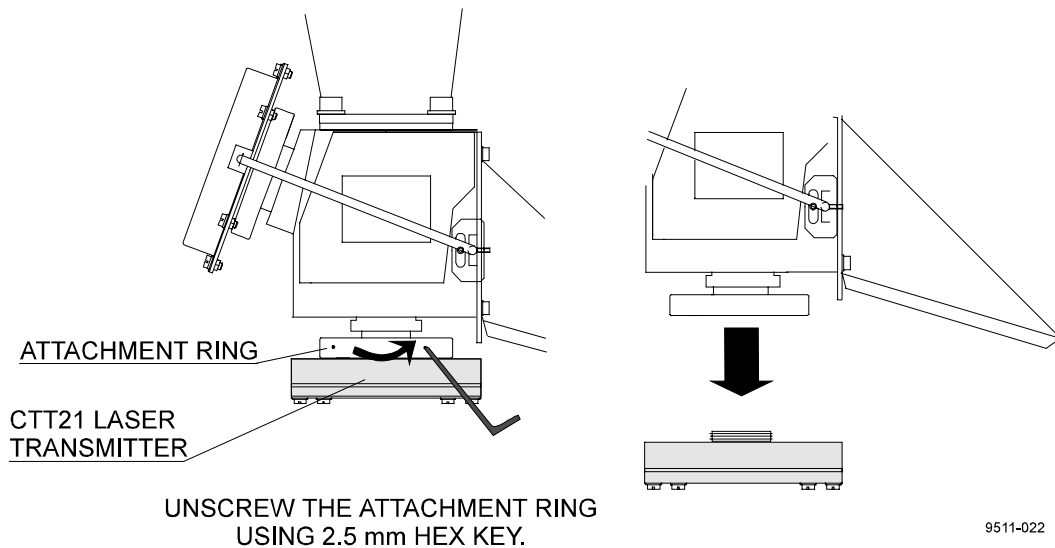

Figure 8-2 Removing the Laser Transmitter
2. Loosen the attachment ring (Figure 8-2) using a 2.5 mm Hexagon Key as a lever; there are holes in the attachment ring for that purpose. If the Transmitter begins to move along, stop it by hand from rotating. **The laser diode has been centered at the factory - do not apply force to the Transmitter because it may disturb the centering.** Take the Transmitter in your hand.
1. Take the Transmitter CTT21 in your hand and set it in place. Notice the right position, the ribbon cable comes out from the back side. Rotate the attachment ring (Figure 8-2) by hand and tighten it using a 2.5 mm hexagon key as a lever. If the transmitter begins to move along, carefully stop it by hand from rotating. **Do not apply force to the transmitter itself because it may disturb the centering.**